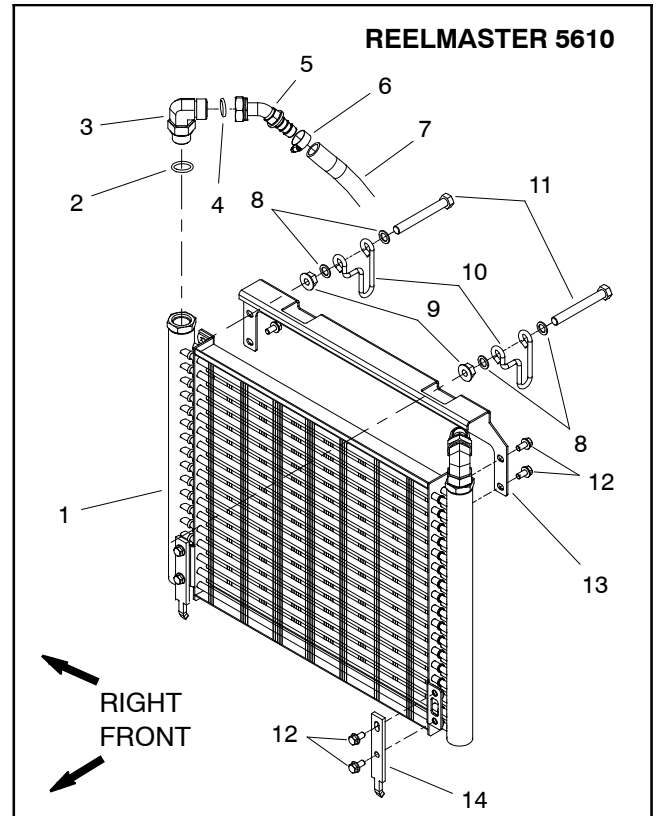

Figure 104
**NOTE:** The oil cooler used on the Reelmaster 5610 is different than the oil cooler used on other Reelmaster 5010 machines. Figure 104 illustrates the oil cooler used on the Reelmaster 5610.